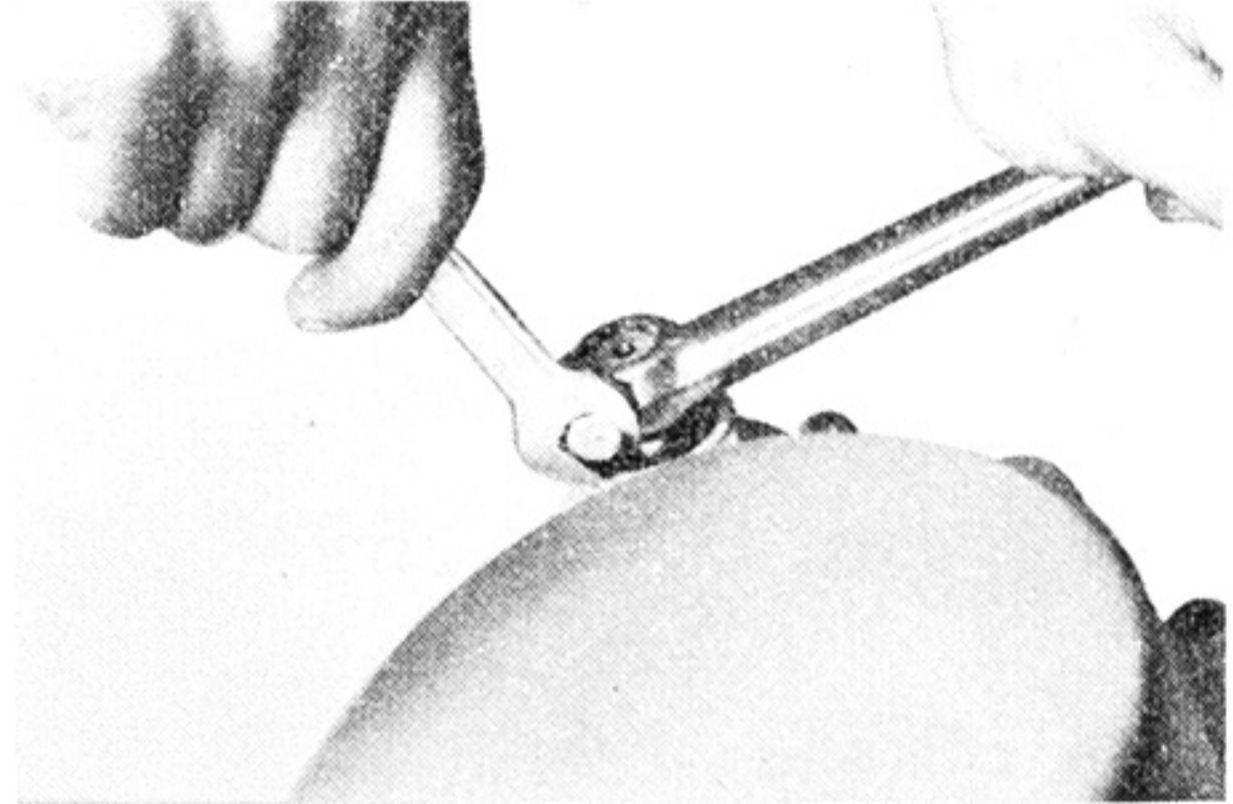

Fig. 3-7-1
- a. Remove the kick starter crank clamping bolt, and remove the crank. (Fig. 3-7-1)